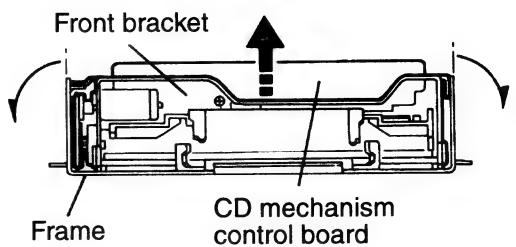
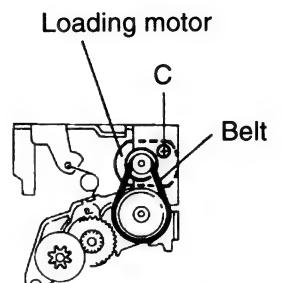

Fig. 13
Fig. 14
**CAUTION:** Remove the front bracket from the frame while expanding both sides of the frame as shown in Fig. 13
1. Remove the belt from the loading motor (See Fig. 13 and Fig. 14)
2. Remove the one screw C retaining the loading motor (See Fig. 14)